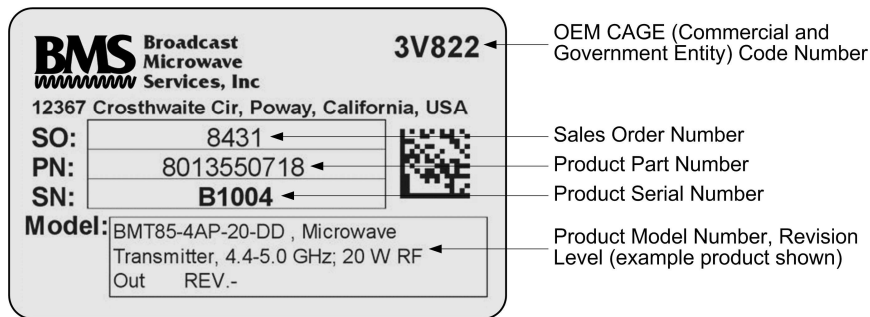

Figure 28. Product label
- BMS product model number (Figure 28);
- Product serial number (Figure 28);
Much of this information can be found on the product label found on the component (Figure 28).